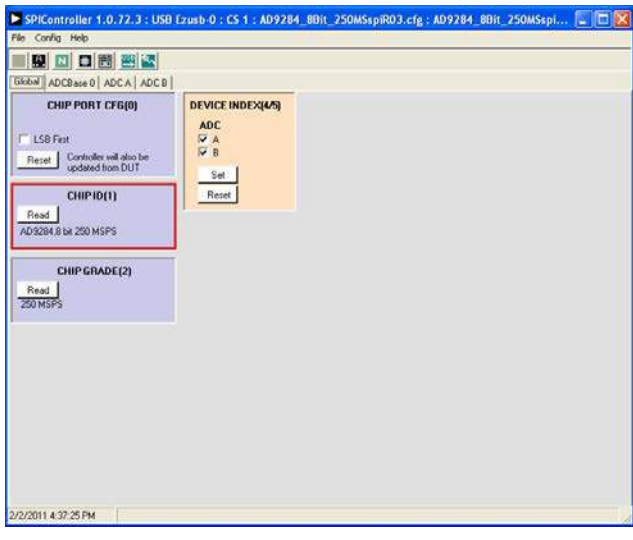

Figure 7. SPIController, CHIP ID(1) Box
1. Open the SPIController software by selecting **Start > SPIController** or by double-clicking the **SPIController** software desktop icon. If prompted for a configuration file, select the appropriate one. If not, check the title bar of the window to determine which configuration is loaded. If necessary, choose **Cfg Open** from the **File** menu and select the appropriate file based on your part type. Note that the **CHIP ID(1)** field should be filled to indicate whether the correct SPIController configuration file is loaded (see Figure 7).